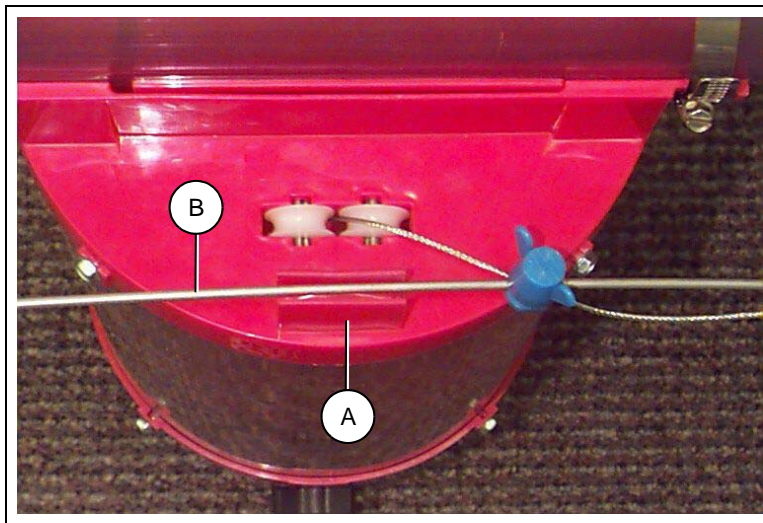

Figure 3K Rod and Rod Guide
2. Hang rod on top of Accu-Drops by placing it inside of the rod guide located on the top front side of the Accu-Drop. Drill a screw through the guide to hold the rod in place on every fourth or fifth Accu-Drop (screw is not provided). (See Figure 3K.)